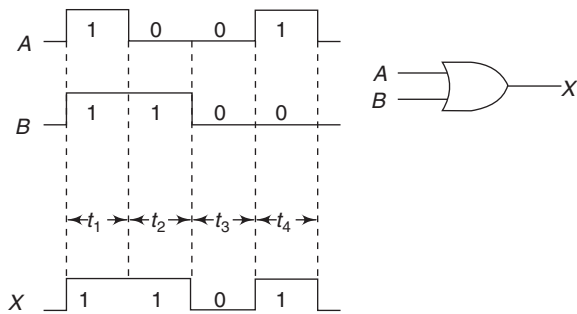

Fig. 4.20 Pulsed Operation of OR Gate.
4.21 Analyze the pulsed operation of the OR gate in Fig. 4.20.